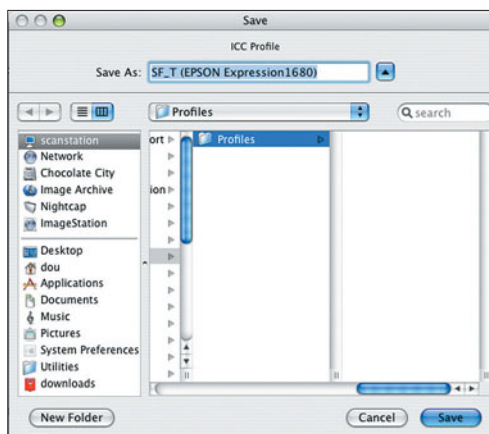

Figure 3.19 A profile is created, and you are prompted to save it in the user/Library/ColorSync/Profiles folder.
5. Name and save the scanner profile (see Figure 3.19).